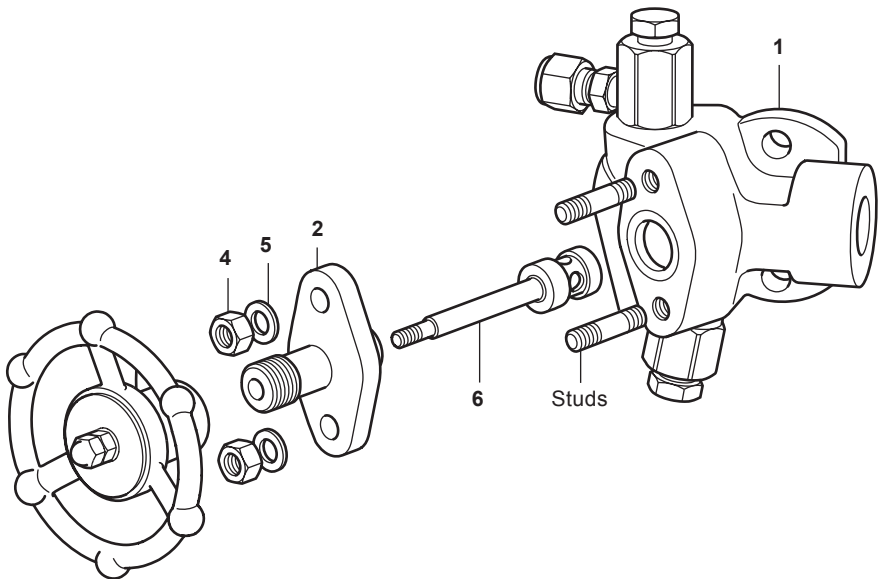

Fig. 5
5.6 Reassembling the valve - See Figure 5:
- Take the piston valve sub assembly (6), lightly inserting it into the pipeline connector body (1) and applying an even downwards force using the bonnet assembly (2) over the studs.
- Fit the belleville washers (5) and nuts (4) and evenly tighten the bonnet assembly (2) down to a torque of 12 Nm (8.9 lbf ft).